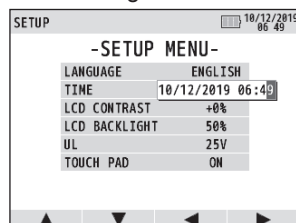

Fig.7-4 Clock adjustment
- (1) On the clock adjustment screen (Fig. 7-4), select the parameter (day/ month/ year/ hour/ min) to be adjusted with ◀(F3) or ▶(F4) switch.
- (2) Use ▲(F1) or ▼(F2) switch to alter the value of the selected parameter and press ENTER to confirm. (Pressing ESC switch during the adjustment can one step back.)